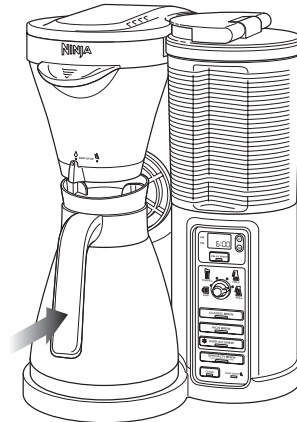

Fig. 8
- 6 Center the thermal carafe below the brew basket. (Fig. 8)